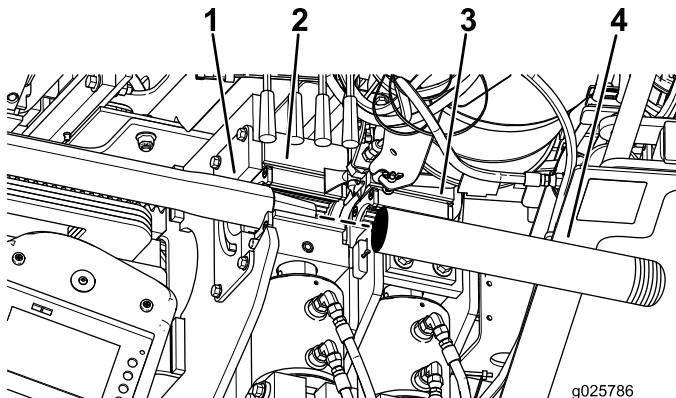

Figure 88
4. Pull the drill pipe and lead bar back through the pipe guide and into the wrenches, aligning the thickened upper joint of the lead bar with the upper wrench (Figure 88).